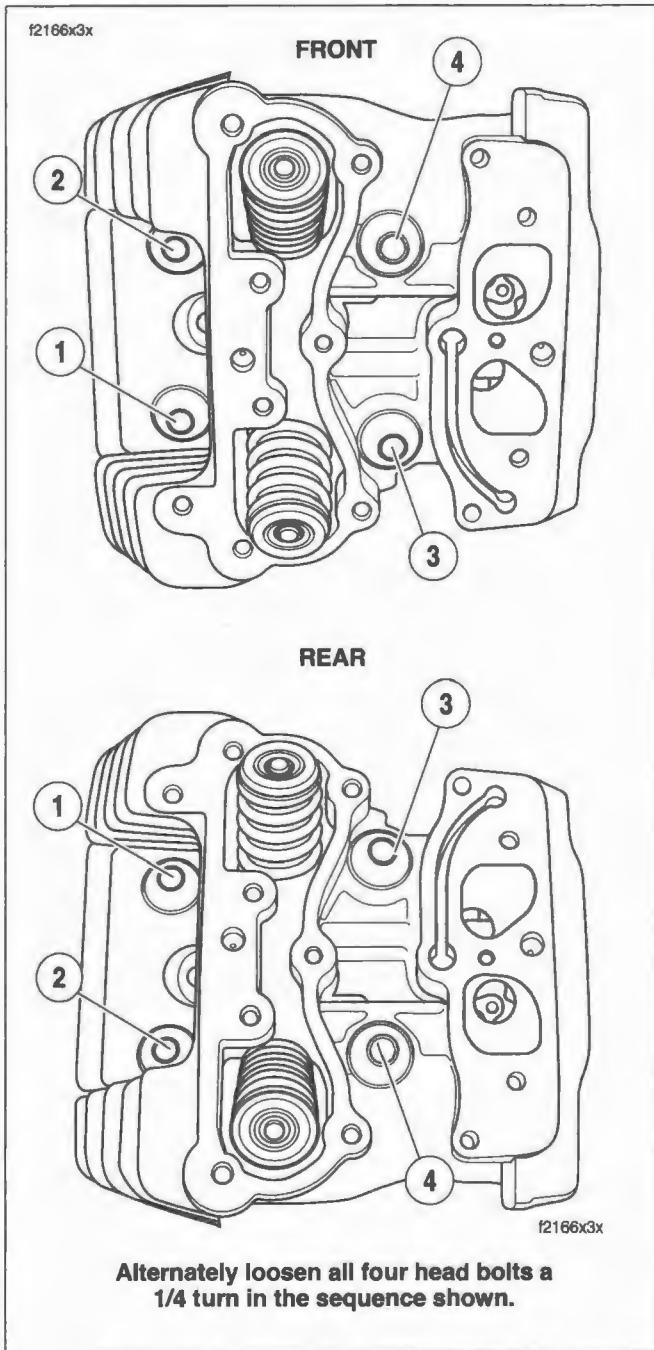

Figure 3-24. Cylinder Head Bolt Removal
3. See Figure 3-24. Remove cylinder head bolts.